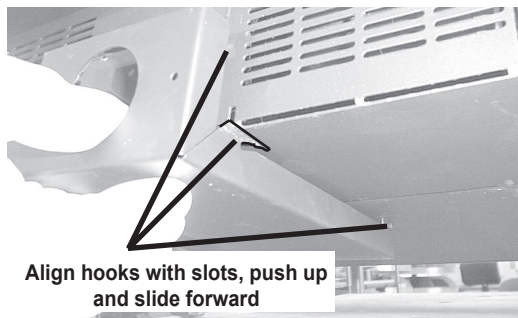

Figure 18.2
2. Align hooks in air channel with slots in convection blower mount and ash box, **Figure 18.2**. Push up and slide forward.